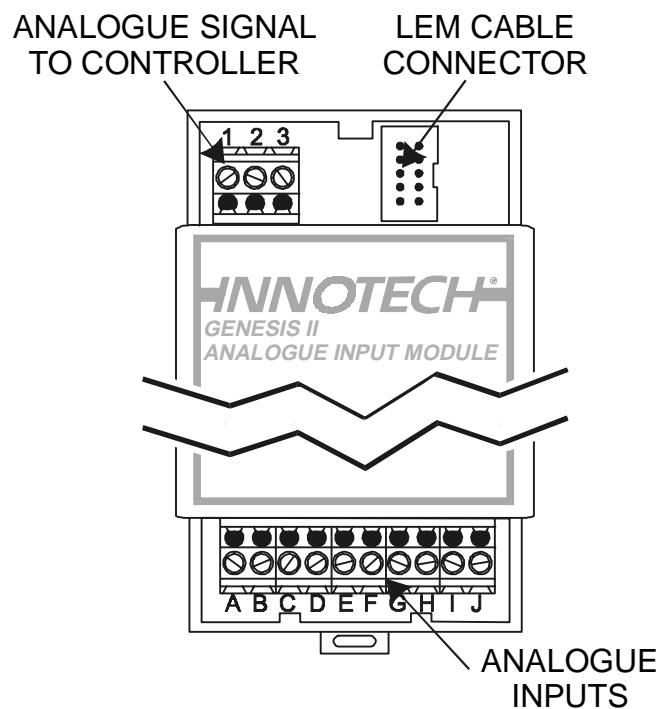

Figure 3-6. Analogue Input Module.
**3-4.1.1. AIM Analogue Input Modules.** Each AIM (Figure 3-6) occupies one of the controller's analogue input channels; however, each AIM has five analogue input channels, thus providing the controller with an overall increase of four channels per AIM.